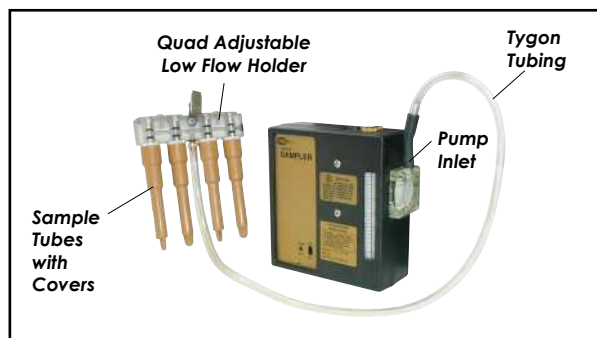

Figure 1. Multiple-tube sampling train using a quad adjustable low flow holder and Universal Series sampler
2. Setting Up the Calibration Train with Adjustable Low Flow Holder — See Figure 1